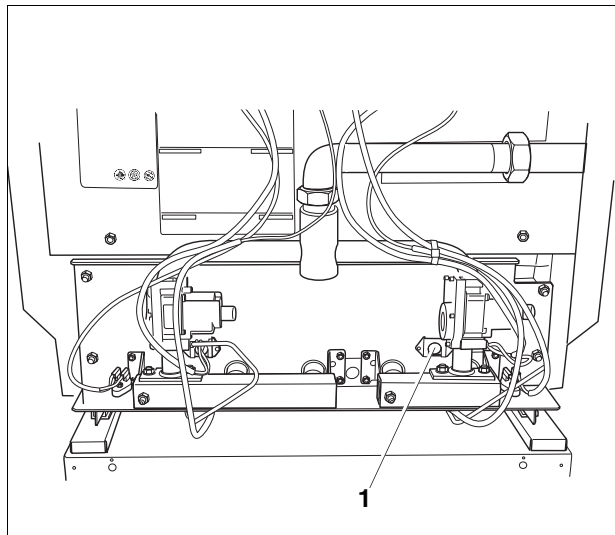
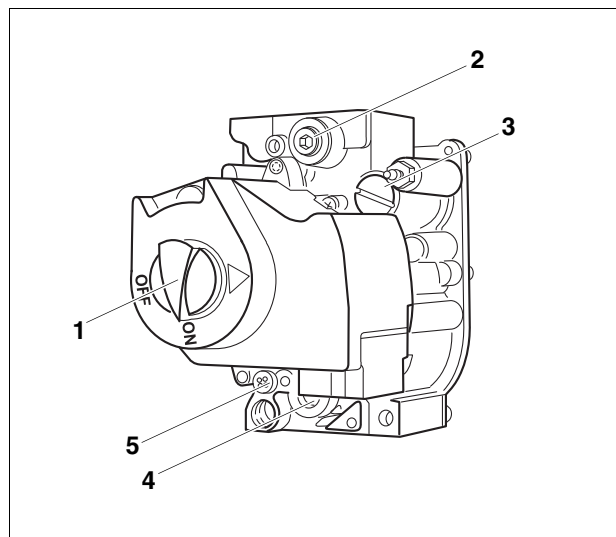

Fig. 10 Front view
Fig. 11 Gas valve
13. Check manifold pressure. The manifold pressure must be set in accordance with the values in → Tab. 2. To set the manifold pressure the cover (→ Fig. 11) on the gas valve must be removed. Turn the adjustment screw clockwise to increase the pressure and counterclockwise to reduce the pressure. This setting must be adjusted while the boiler is operating.
14. Record the set value in the commissioning protocol of the installation and maintenance instructions and screw the safety screw (→ Fig. 11 page 12) into the gas valve again.
15. Observe pilot flame through the sight glass (→ Fig. 10 page 11) in the burner housing.
The adjustment screw is behind the pilot pressure adjustment safety screw (→ Fig. 11 page 12).
18. Remove safety screw for pilot pressure setting (→ Fig. 11 page 12). Turn the inner adjustment screw clockwise to reduce the pilot flame and counterclockwise to enlarge the pilot flame.
19. After adjustment tighten the pilot pressure adjustment safety screw (→ Fig. 11 page 12) again.
20. Observe main burner flame through the sight glass (→ Fig. 10 page 11) in the burner housing. The flame must have a steady and fixed contour and generally has a bluish color. If the main burner flame meets the requirements, proceed with step 21. If the main burner flame is too weak or is yellow or goes out, turn the ON/OFF switch (→ Fig. 11 page 12) on the gas valve clockwise to OFF. Close the gas valve and disconnect the heating system from the power supply and contact the customer service technician or the gas company.